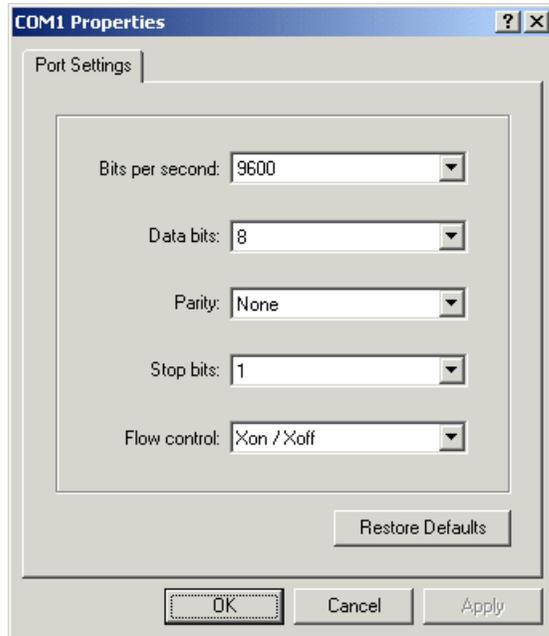

Figure 4-3 COM1 Properties window
6. The COM1 Properties window is displayed, as shown in Figure 4-3: